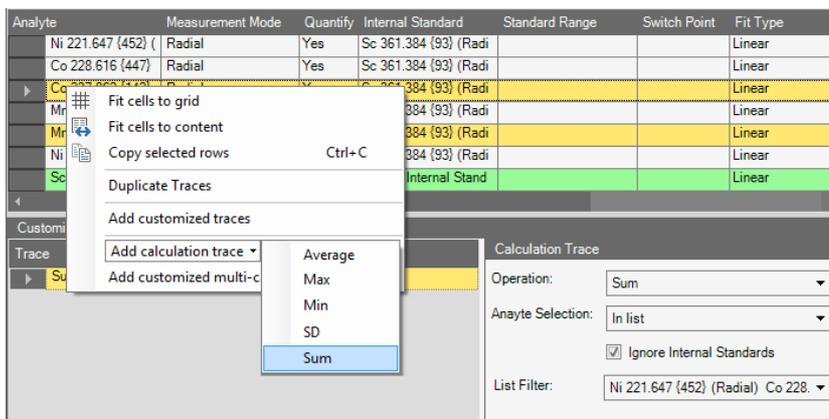

Figure 9-34. Calculation traces from shortcut menu of a LabBook
3. On the shortcut menu, expand **Add calculation trace** and select the operator you wish to use, see Figure 9-34.